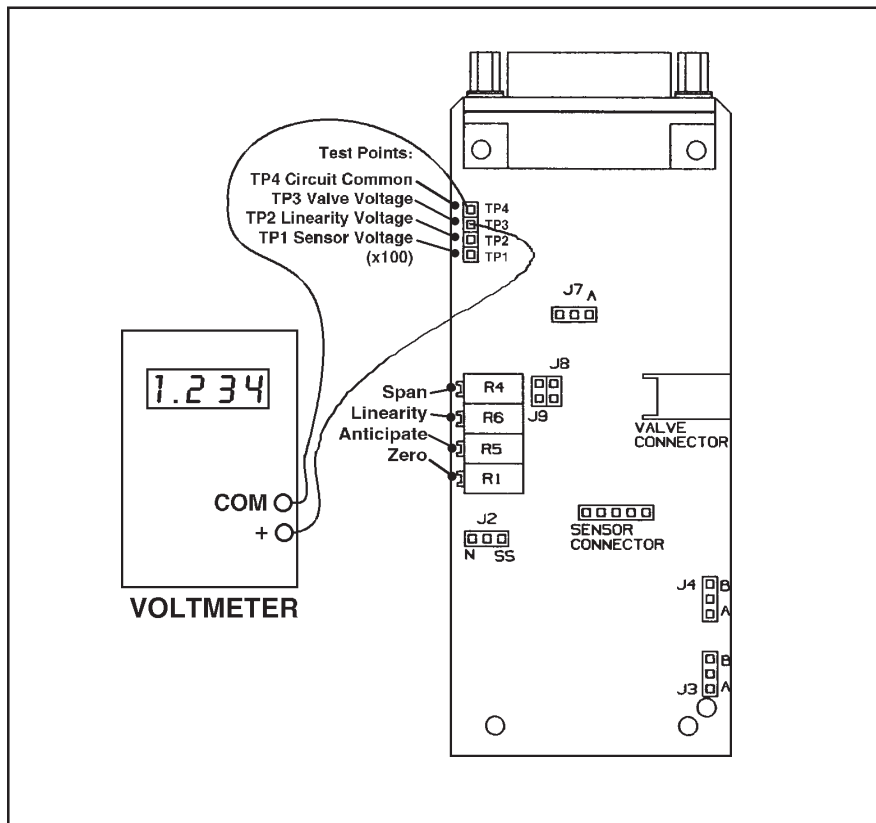

Figure 4-2 Voltmeter Connections for Valve Adjustment
- j2. If the flow controller output signal is 100% and the valve voltage is greater than 11.5 V, decrease the air gap with a small 0.005 inch air gap spacer. Refer to Figure 4-2. Repeat Steps h and i.